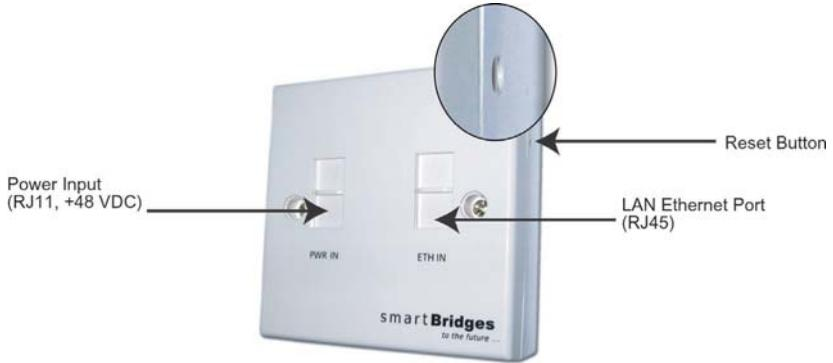

Figure 3-3 PoE Injector Indicators and Connectors
After grounding the PoE Injector, it can be mounted on a wall or secured otherwise in an accessible location. Figure 3-3 illustrates the placement of the RJ11 and RJ45 cables.
1. Connect the PoE Injector to the power module via the PWR IN RJ11 jack (see Figure 3-3).
2. Connect the PoE Injector to the computer or network via the ETH IN RJ45 jack (see Figure 3-3).
In order to return the device to default factory settings, you may use the reset button on the side of the PoE Injector to reset the unit. You will need to press and hold the reset button using a small pointed object such as a paperclip for 15-20 seconds. Refer to Fig 3-3.